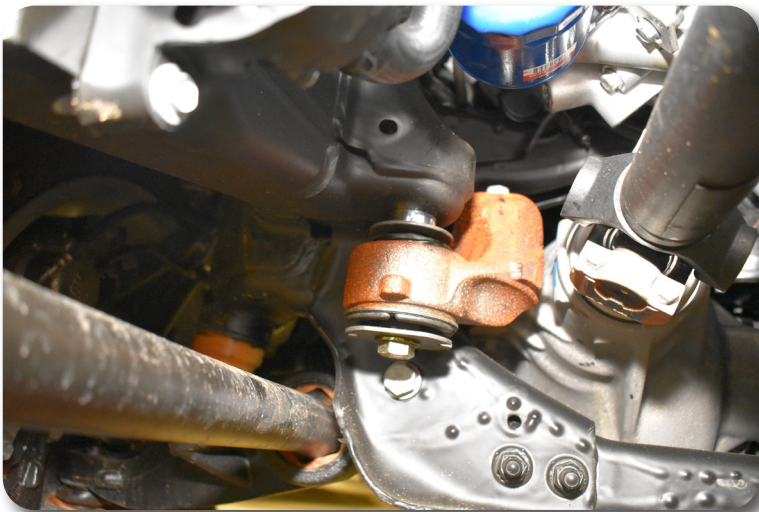

Figure 9 Rear Driver Mount Shown
17. Lower the differential and install the spacers between the frame mounting points and the factory brackets. Use the short 1/2" tall spacer at the rear mount with 9/16" x 5" hardware. Use the tall 7/8" spacer at the front mount with 9/16" x 5-1/2" hardware. Figure 9 Torque the 9/16" hardware to 118 ft-lbs.